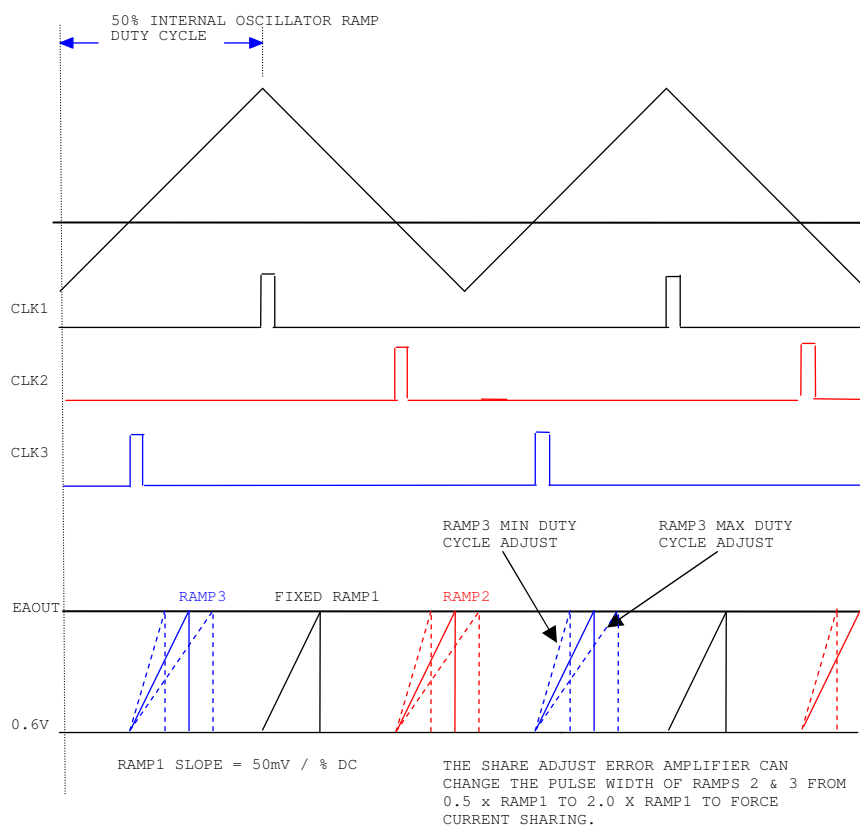
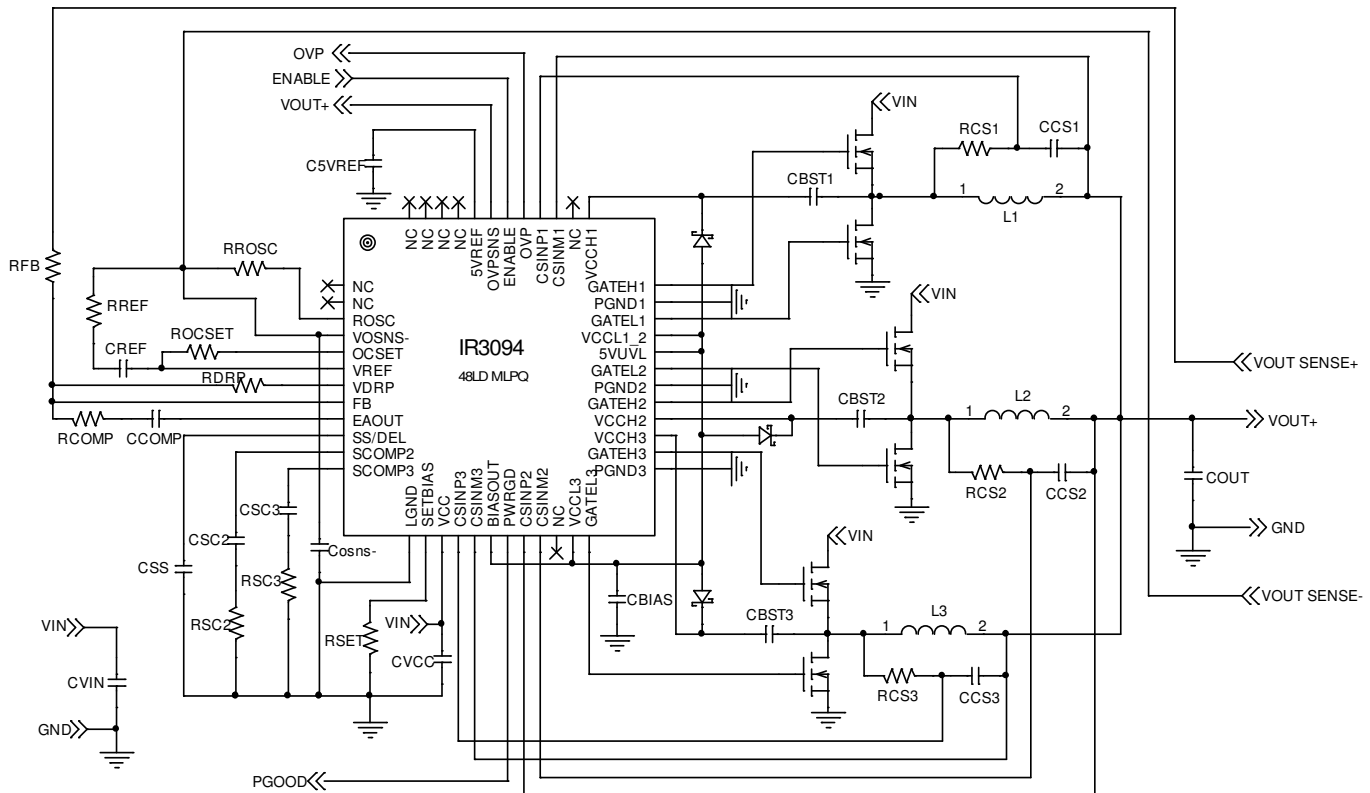

Figure 3 – 3 Phase Oscillator and PWM Waveforms
Figure 6 – System Diagram
Refer to Figure 3. Upon receiving a clock pulse, the RSFF is set, the internal PWM ramp voltage begins to increase, the low side driver is turned off, and the high side driver is then turned on. For phase 1, an internal 9pF capacitor is charged by a current source that is proportional to the switching frequency resulting in a ramp rate of 50mV per percent duty cycle. For example, if the steady-state operating switch node duty cycle is 10%, then the internal ramp amplitude is typically 500mV from the starting point (or floor) to the crossing of the EAOUT control voltage. When the PWM ramp voltage exceeds the Error Amplifier's output voltage, the RSFF is reset. This turns off the high side driver, turns on the low side driver, and discharges the PWM ramp to 0.6V until the next clock pulse.
The oscillator frequency is programmable from 100kHz to 540kHz with an external resistor RROSC as shown in Figure 6. The Oscillator generates an internal 50% duty cycle sawtooth signal (Figure 3.) that is used to generate 120° out-of-phase timing pulses to set Phase 1,2 and 3 RS flip-flops. Once the switching frequency is chosen, RROSC can be determined from the curve in the Typical Operating Characteristics Section.
The inductor DC resistance R_L is utilized to sense the inductor current. The current limit threshold is set by a resistor R_{OCSET} connected between the OCSET and VREF pins, as shown in Fig6. I_{LIMIT} is the required over current limit. I_{OCSET} , the bias current of OCSET pin, is set by R_{ROSC} and is determined by the curve in the Typical Operating Characteristics Section. OCP need to satisfy the high temperature condition. R_{L_MAX} and R_{L_ROOM} are the inductor DCR at maximum temperature T_{L_MAX} and room temperature T_{ROOM} respectively, the maximum inductor DCR can be calculated from Equation (9)
The voltage at the VDRP pin is an average of three phase Current Sense Amplifiers and represents the sum of the VREF voltage and the average inductor current of all the phases. The VDRP pin is connected to the FB pin through the RDRP resistor, see figure 6. The Error Amplifier forces the voltage on the FB pin to equal VREF through the power supply loop therefore the current through RDRP is equal to (VDRP-VREF) / RDRP. As the load current increases, the VDRP voltage increases accordingly which results in an increase in RFB current, positioning the output regulated voltage lower thus making the output voltage reduction proportional to an increase in load current. The droop impedance or output impedance of the converter can thus be programmed by the resistor RDRP. The offset and slope of the converter output impedance are independent of the VREF voltage.
The maximum and minimum duty cycle adjust range of Ramps 2 & 3 compared to Ramp1 has been limited to a minimum of 0.5x and a maximum of 2.0x typical (see Figure 3.). The crossover frequency of the current share loop can be programmed with a capacitor at the SCOMPX pin so that the share loop does not interact with the output voltage loop.